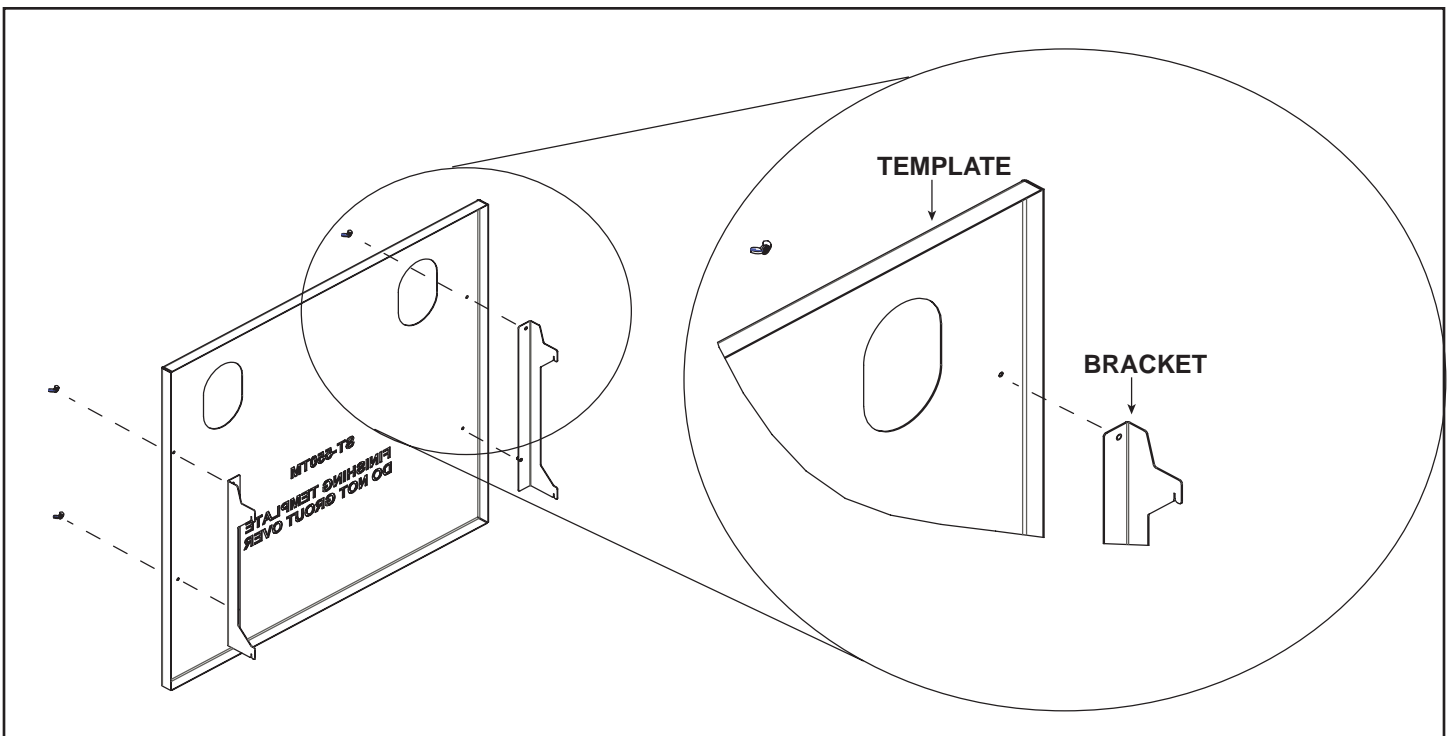

Figure 2. Bracket Attachment
4. Align the brackets with the template as shown in Figure 2.
4. Reattach the brackets to the template as shown in Figure 2.